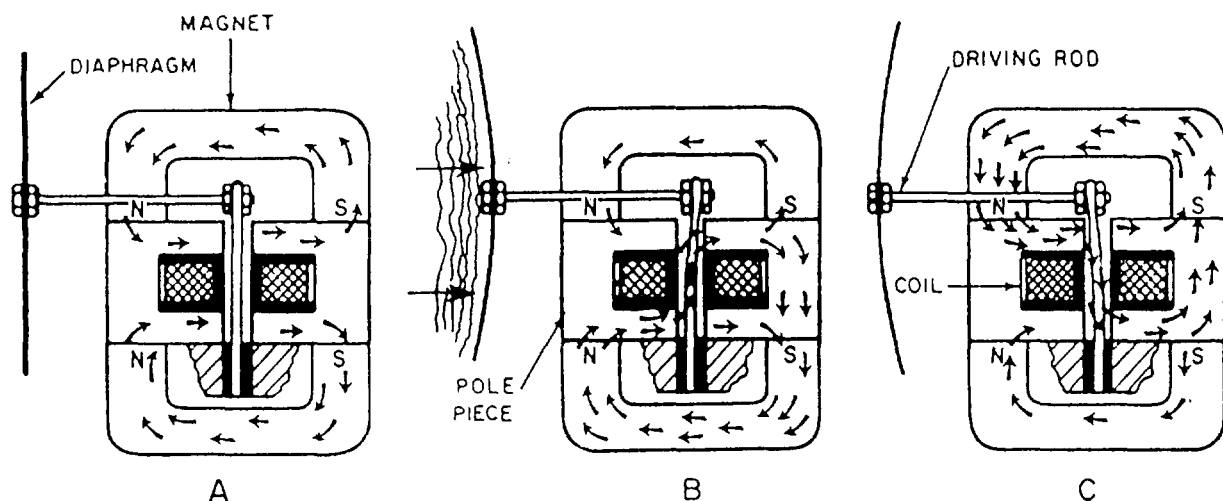

Figure 5-8.—Sound-powered transmitter receiver unit.
**SOUND-POWERED UNITS.**— The sound-powered transmitter (microphone) and receiver units in a sound-powered handset are identical and interchangeable. As illustrated in figure 5-8, views A, B, and C, a unit consists of two permanent magnets, two pole pieces, an armature, a driving rod, a diaphragm, and a coil. The armature is located between four pole tips, one pair at each end of the armature. The spacing between the pole tips at each end is such that an air space remains after the armature is inserted between them. This air space has an intense magnetic field, supplied by the two magnets that are held in contact with the pole tips.
compressions and rarefaction in the atmosphere in which they travel. In sound-powered telephones, the sound waves created by a speaker's voice cause the diaphragm in the transmitter unit to vibrate in unison with the sound wave vibrations. Figure 5-8, view A, shows the armature of a transmitter unit when there are no sound waves striking the diaphragm. Note that the armature is centered between the pole pieces with the magnetic lines of force passing from the north to the south pole and that there are no lines of force passing lengthwise through the armature.
Figure 5-8, views B and C, show sound waves striking the diaphragm and causing the diaphragm to vibrate. The vibrations are impressed upon the armature by the drive rod. During the compression part of the wave (fig. 5-8, view B) this action causes the armature to bend and reduce the air gap at the upper south pole. The reduction of the air gap decreases the reluctance between the upper south pole and the armature, while increasing the reluctance between the armature and the upper north pole. This action reduces the lines of force that travel between the two upper pole pieces. There is no large change in the reluctance at the lower poles; however, the armature has less reluctance than the lower air gap and a large number of magnetic lines of force will follow the armature to the upper south pole.
When the sound wave rarefaction reaches the diaphragm (fig. 5-8, view C), it recoils, causing the